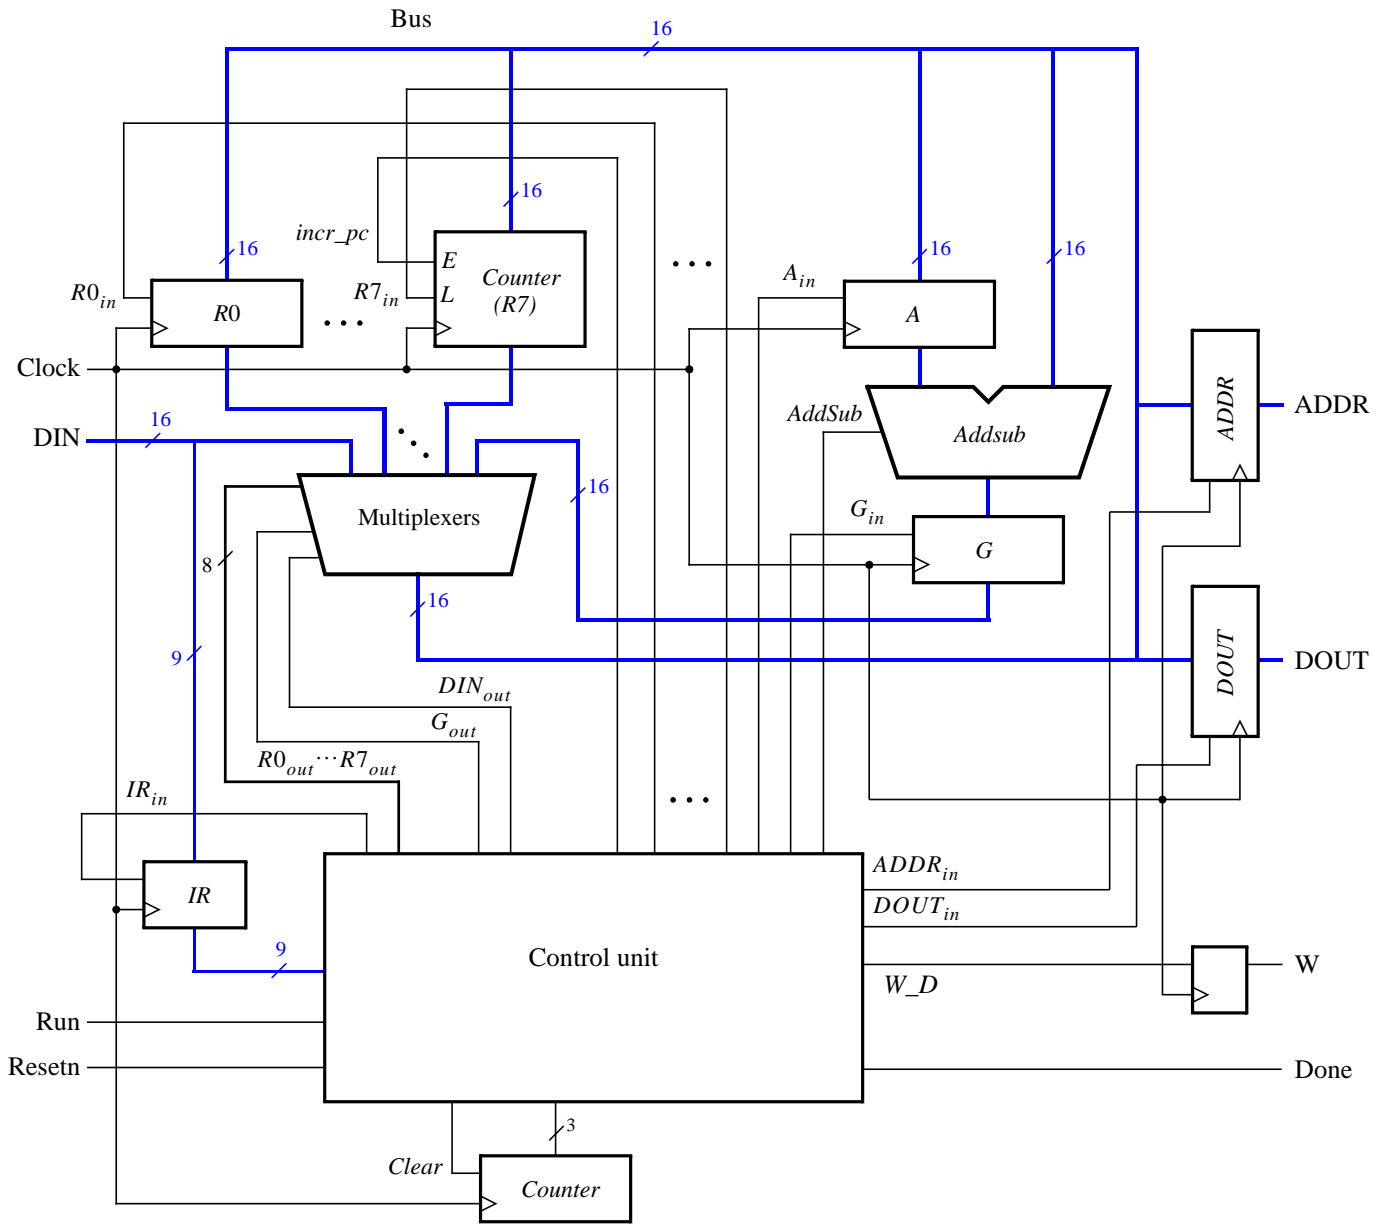

Figure 7. An enhanced version of the processor.
A schematic of the enhanced processor is given in Figure 7. In this figure, registers R_0 to R_6 are the same as in Figure 1 of Laboratory Exercise 9, but register R_7 has been changed to a counter. This counter is used to provide the addresses in the memory from which the processor's instructions are read; in the preceding lab exercise, a counter external to the processor was used for this purpose. We will refer to R_7 as the processor's *program counter* (PC), because this terminology is common for real processors available in the industry. When the processor is reset, PC is set to address 0. At the start of each instruction (in time step 0) the contents of PC are used as an address to read an instruction from the memory. The instruction is stored in IR and the PC is automatically incremented to point to the next instruction (in the case of **movi** the PC provides the address of the immediate data and is then incremented again).
Figure 7 shows two registers in the processor that are used for data transfers. The *ADDR* register is used to send addresses to an external device, such as a memory module, and the *DOUT* register is used by the processor to provide data that can be stored outside the processor. One use of the *ADDR* register is for reading, or *fetching*, instructions from memory; when the processor wants to fetch an instruction, the contents of *PC* (*R7*) are transferred across the bus and loaded into *ADDR*. This address is provided to memory. In addition to fetching instructions, the processor can read data at any address by using the *ADDR* register. Both data and instructions are read into the processor on the *DIN* input port. The processor can write data for storage at an external address by placing this address into the *ADDR* register, placing the data to be stored into its *DOUT* register, and asserting the output of the *W* (write) flip-flop to 1.